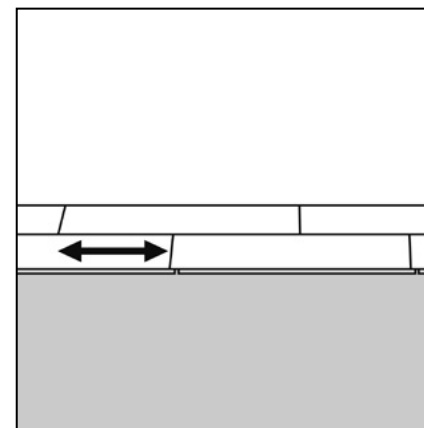

Figure 26 Stagger the short joints
- > Insert the upper male profile of the long side of the plank into the corresponding lower profile of the long edge of the plank in the previous row, at a slight angle. Press down until it locks into place. Always try to stagger the short joints approx. 150mm from the nearest short joint in the previous row; (fig. 26). Do not forget to include the required expansion gap to the wall.